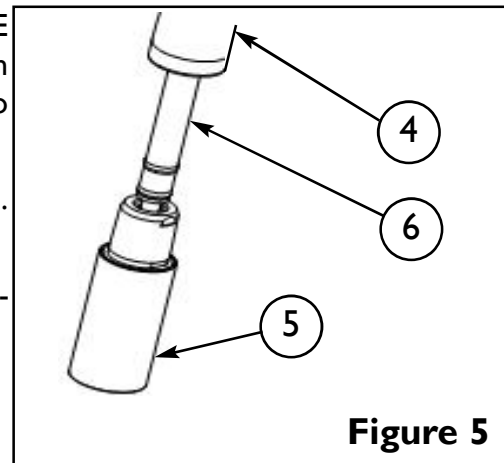

Figure 5
9. Pull SPRAYHEAD (5) out from SPOUT (4). While holding HOSE (6), detach SPRAYHEAD (5). Aiming HOSE (6) into sink, turn on faucet to center position (mixed) and flush for one minute to remove debris from lines.
10. Turn OFF faucet and reattach SPRAYHEAD (5) to HOSE (6). **See Figure 5.**
11. Check the SPRAYHEAD (5) by operating the trigger from aerator to spray.